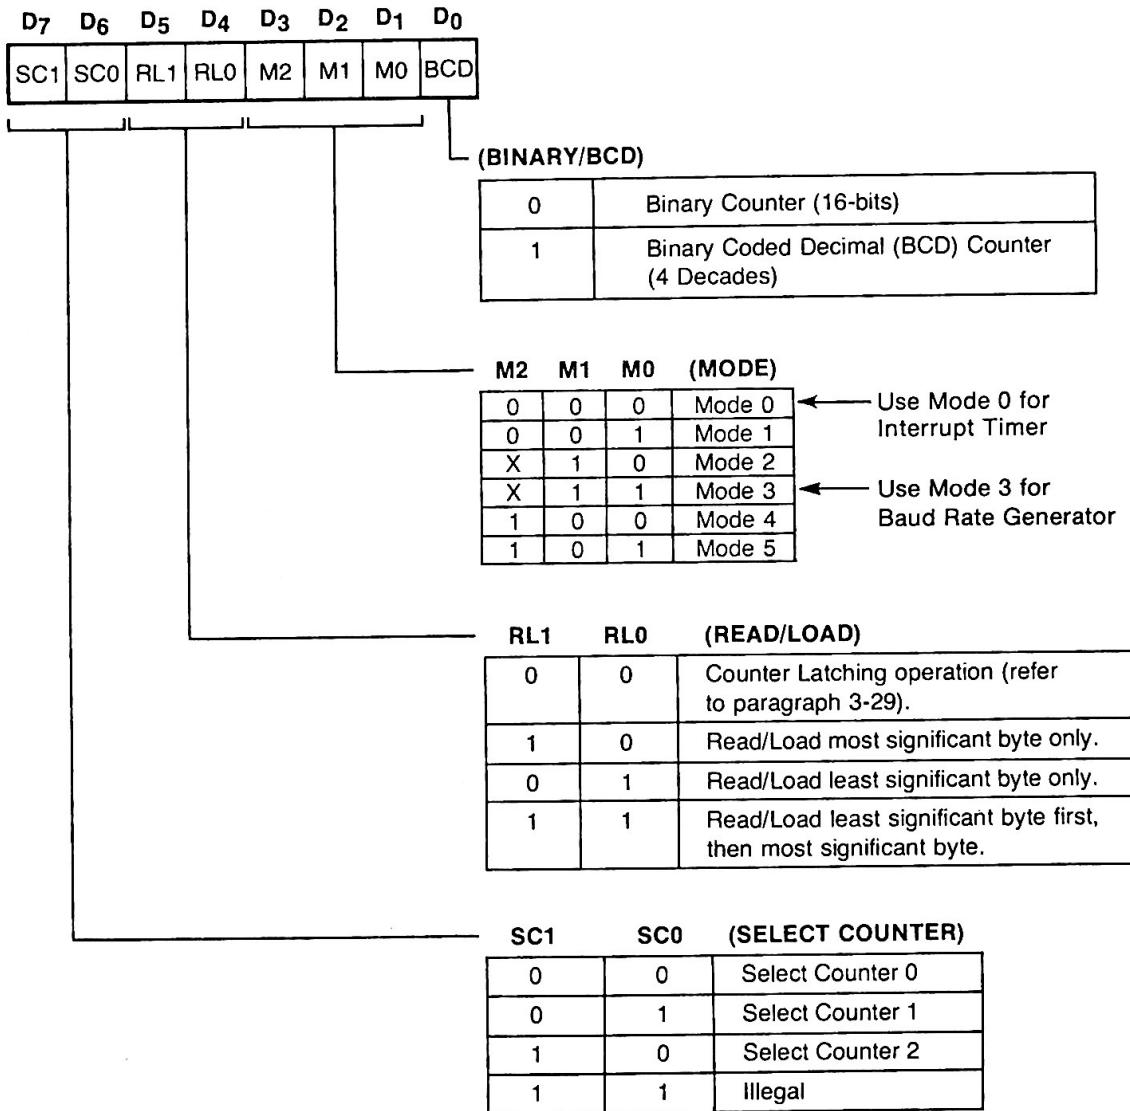

Figure 3-8. PIT Control Word Format
1. A mode control word (Figure 3-8) is written to the control register for each individual counter.
The mode control word (Figure 3-8) does the following:
The count mode selected in the control word controls the counter output. As shown in Figure 3-8, the PIT chip can operate in any of six modes:
1. Write the mode control word for counter \emptyset to address XB. Note that all mode control words are written to XB, since the mode control word must specify which counter is being programmed. (Refer to Figure 3-8.) Table 3-7 provides a sample subroutine for writing mode control words to all three counters.